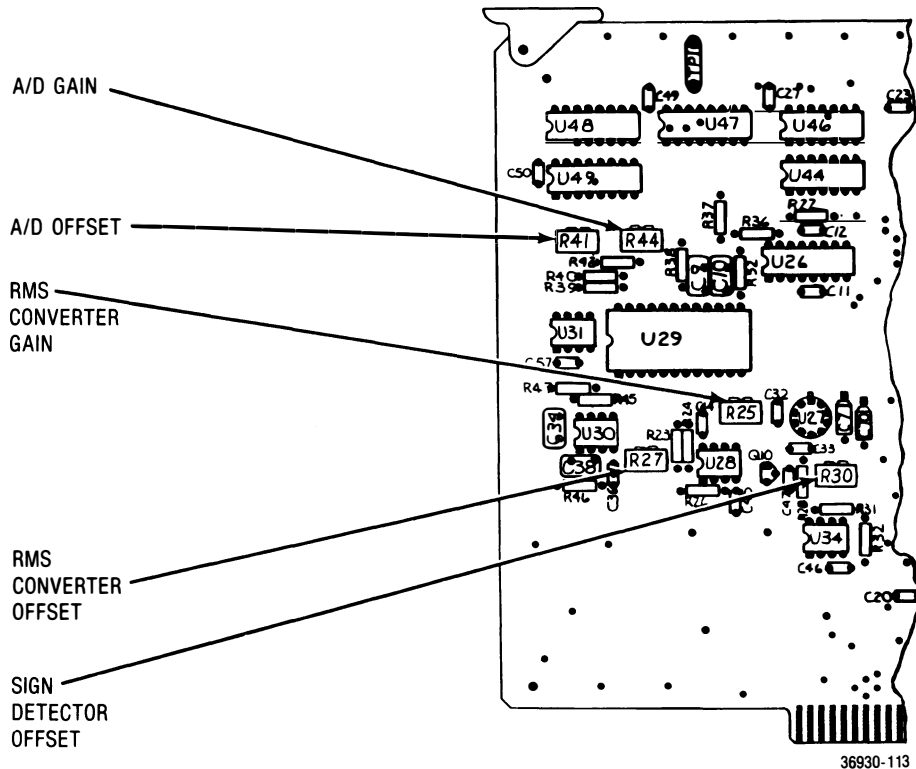

Figure 3-4. Processor Interface Board (A11) - Alignment Points
8. Adjust the A/D Offset on the Processor Interface board (Figure 3-4) until the plus-peak-deviation
11. Adjust the A/D Gain (Figure 3-4) until the reading on the positive deviation peak is 4.50 kHz.
13. With the center conductor of the front panel's DVM input port again shorted to ground, adjust the RMS-Converter Offset on the Processor Interface board (Figure 3-4) for a reading of 0.000V on the CRT DVM display.
14. Adjust the Sign Detector Offset (Figure 3-4) until the sign of the 0.000V reading is just flashing between plus and minus.
16. While monitoring the input voltage on an external DVM, adjust the RMS-Converter Gain on the Processor Interface Board (Figure 3-4) until the CRT DVM reading equals the external voltage applied.